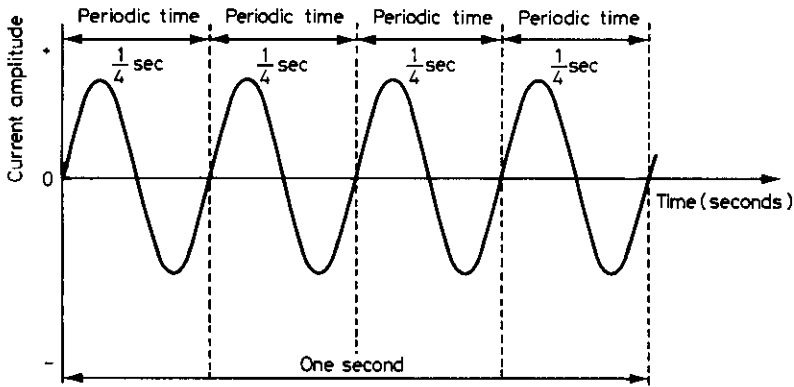

Fig. 14.4
Exercise 1. Study Figure 14.4.
- (a) What is the frequency of the waveform in Fig. 14.4?
(b) What is the periodic time of the waveform in Fig. 14.4?